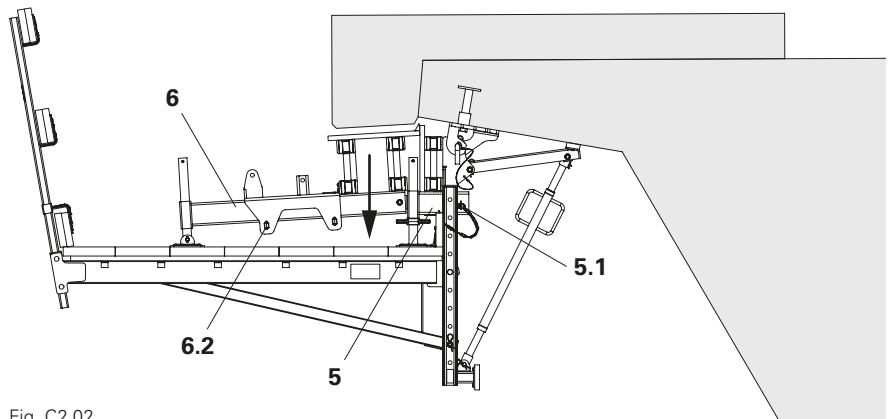

Fig. C2.02
1. Release wedge (5.1) on Formwork Fixing-2 VGK (5) and wedges (6.2) on Formwork Support VGK (6).
2. Turn spindle downwards until the slab formwork has been released from the cantilevered parapet. (Fig. C2.02)